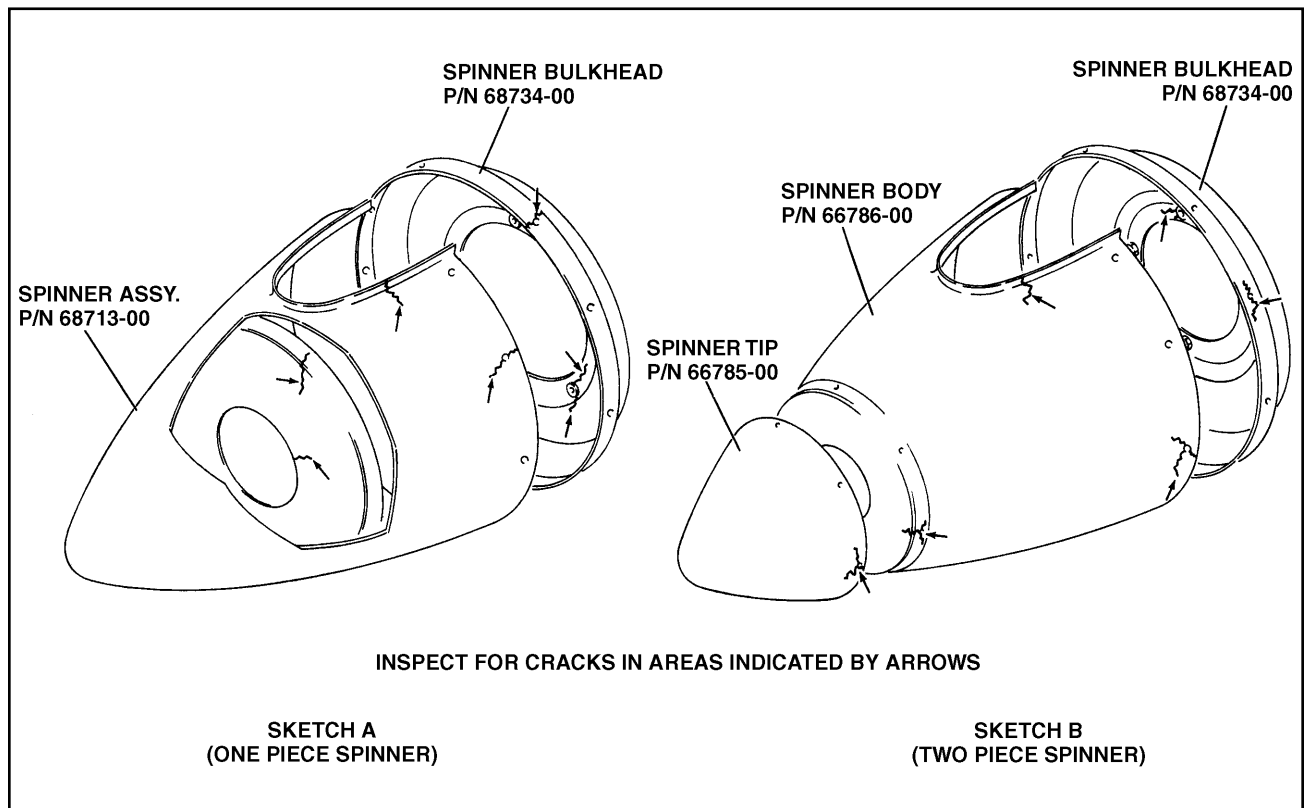

Figure 3-3. Spinner and Spinner Bulkhead Inspection
- (a) Remove spinner and inspect for cracks in the areas shown in Figure 3-3, Sketches A or B, as appropriate.
- (b) Inspect the spinner bulkhead for cracks in the area of the nut plates and attachment points as shown in Figure 3-3, Sketches A or B, as appropriate.